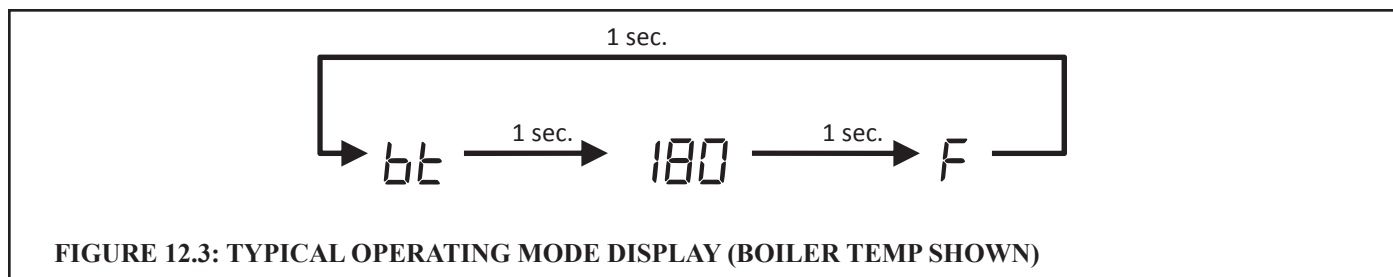

FIGURE 12.3: TYPICAL OPERATING MODE DISPLAY (BOILER TEMP SHOWN)
2. **Operating Mode** - Provides additional information about the current status of the boiler. Operating mode is entered by pressing the **I** button shown in Figure 12.0. When this button is first pressed in Status mode, the display will alternately display *bt* and the current boiler water temperature as shown in Figure 12.3. Pressing the **I** button again will display the next line item shown in Table 12.2. In the same manner it is possible to advance through all of the “parameters” shown in Table 12.2. To return to Status mode, press **I** repeatedly until *5tH* once again appears on the display. Alternatively, the control will return to Status mode if no key is touched for 1 minute.
In operating mode, holding either the \uparrow or \downarrow button while viewing a given parameter will keep the display on the actual reading. For example, pressing \uparrow while reading boiler temperature as shown in Figure 12.3 will keep the display on 180 for as long as this button is held. This makes it easier to view readings “live” if they are changing rapidly